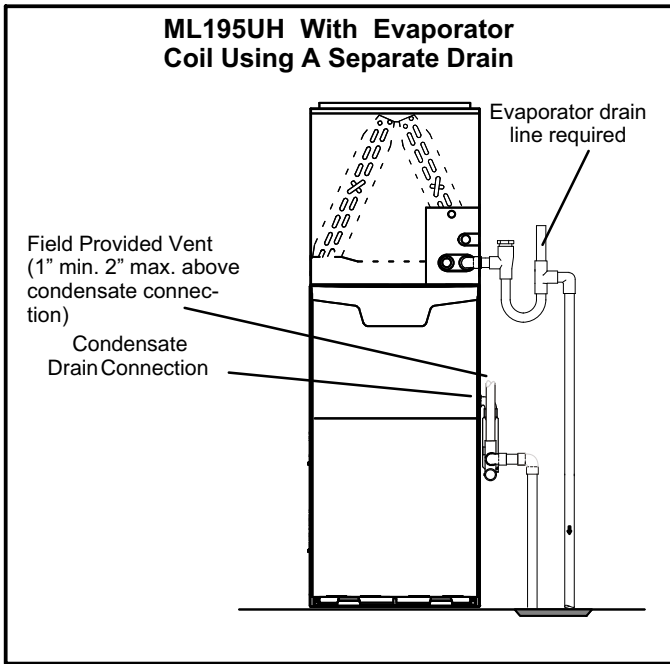

FIGURE 52
- 5 - Figures 52 and 54 show the furnace and evaporator coil using a separate drain. If necessary the condensate line from the furnace and evaporator coil can drain together. See figures 53, 55 and 56.